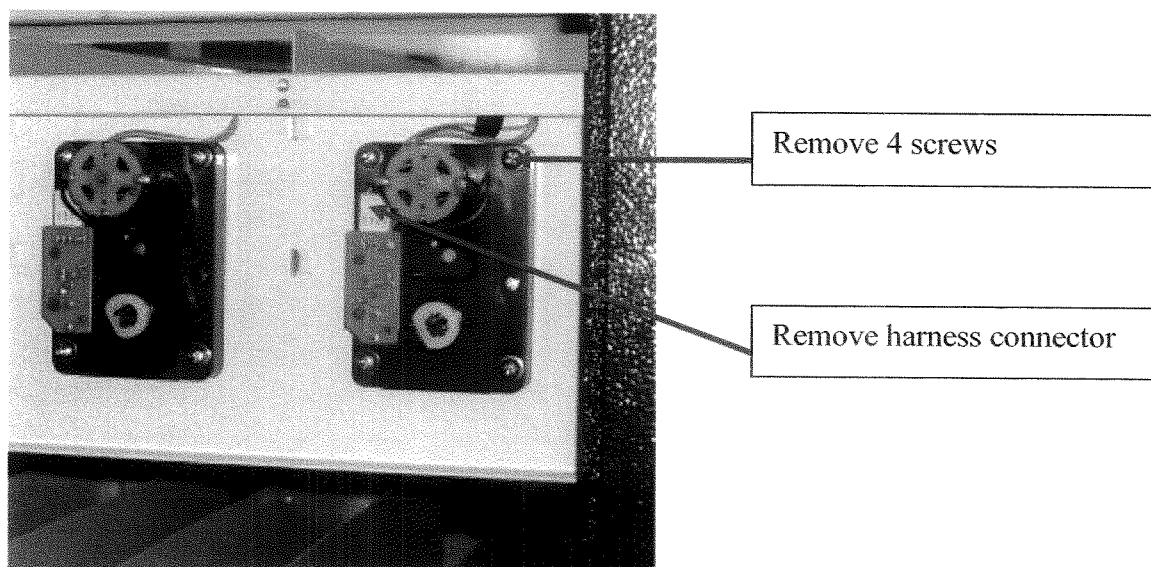

Figure 34 – Removing the motor from the snack/candy section
3. Remove the harness connector (*reference figure 34*)
4. Remove the 4 mounting screws (*reference figure 34*)